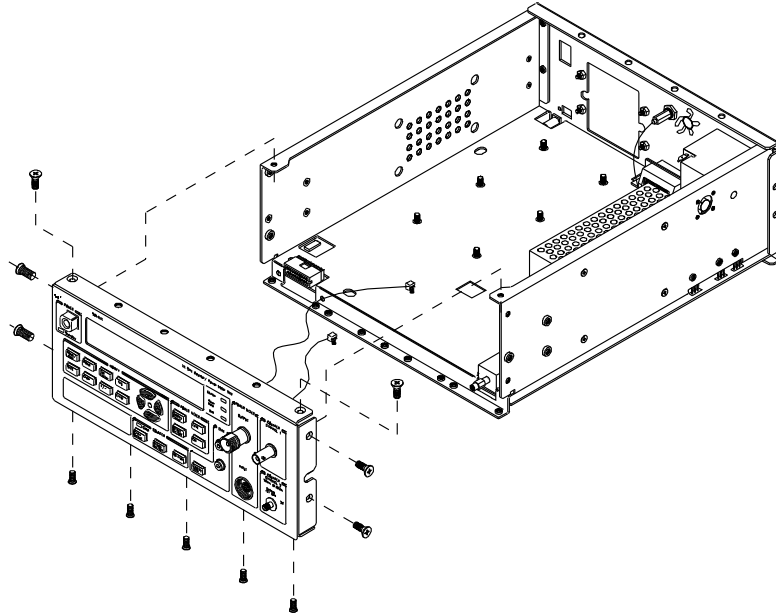

Figure 3-5 Removing the Front Panel Assembly
- 11 Remove the two 6-32 x ¼ flathead machine screws from the countersunk holes at the top-front corners of the chassis (see Figure 3-5).